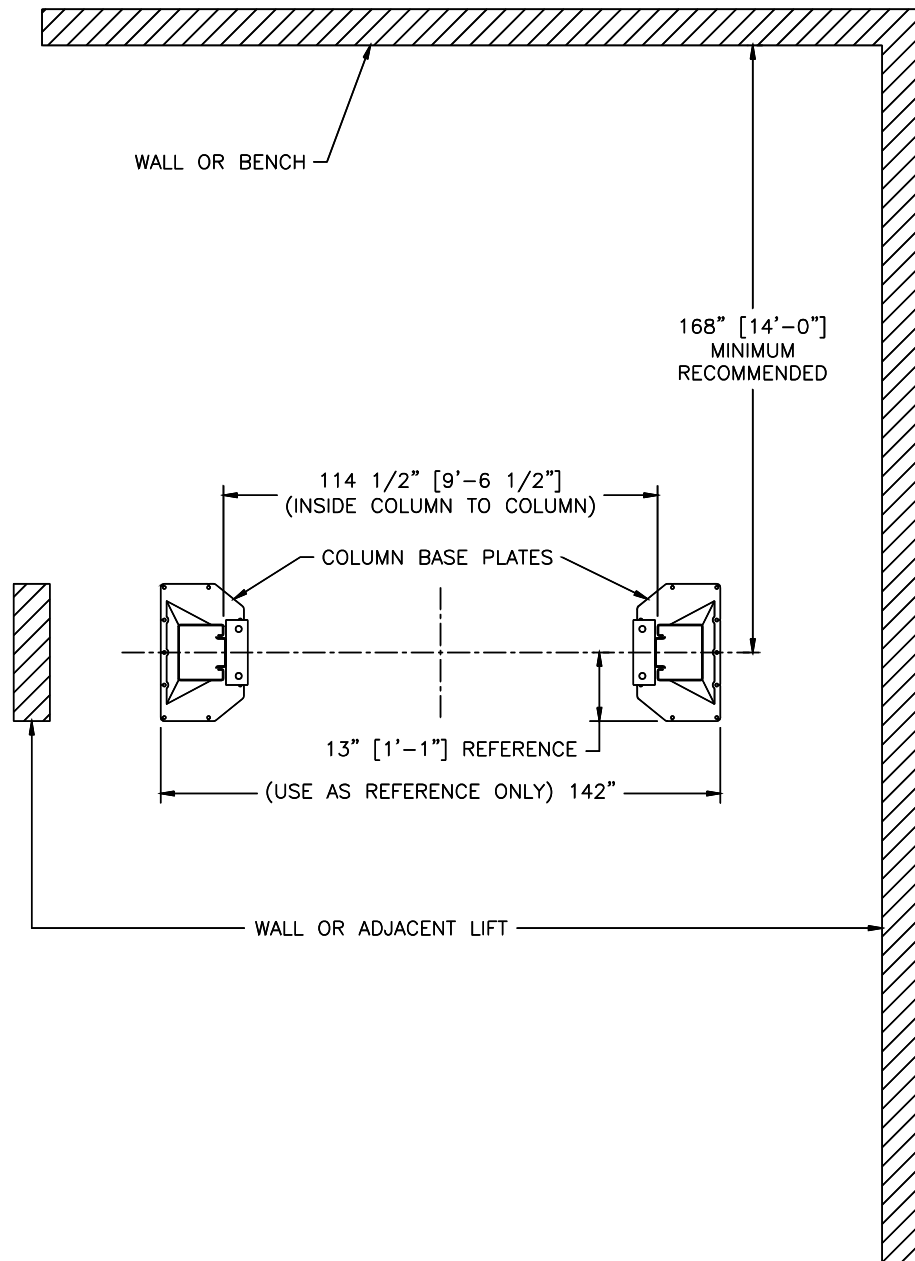

Figure 2
2. Layout the service bay according to the architect=s plans or owner=s instructions (see Fig 2). Be certain that the proper conditions exist per the section entitled ABefore You Install=.